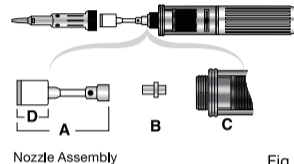

Fig.8
2. Unscrew **Nozzle Assembly (A)** from the **Torch Body (C)**. (Fig. 8) Pliers may be used to lightly grasp the shank in order to loosen it. **Do not** grasp and turn the **Ceramic Head. (D)**
3. Carefully remove **Orifice connector (B)** by lifting it out of the torch body. Note that the shorter side of Orifice Connector fits into the Torch Body.
5. Replace new (or clean) Orifice connector (B) remembering to insert the **shorter side into the Torch Body**.